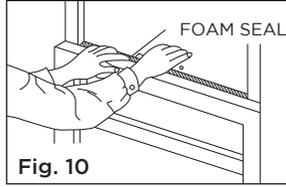

Fig. 10
If storm window blocks AC, see Fig. 10.
D. Cut Window sash seal foam and insert it in the space between the upper and lower sashes (Fig. 10).